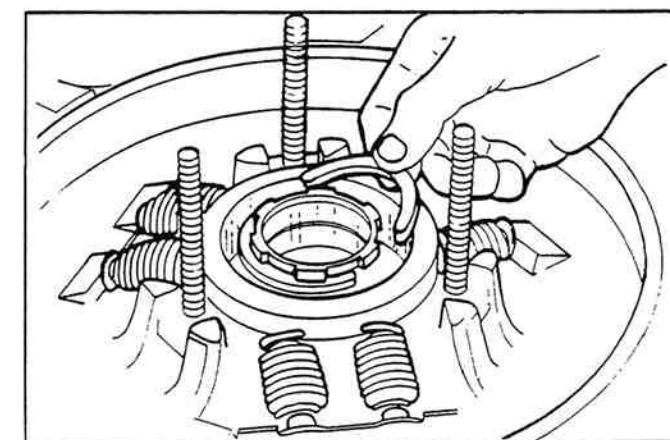

Figure 5-11. Remove Half Ring Locks.
12. Again support release sleeve on tubing as in Step 10. Remove half ring locks (figure 5-11). Release sleeve and bearing assembly are now free to slide through retainer toward rear of clutch.